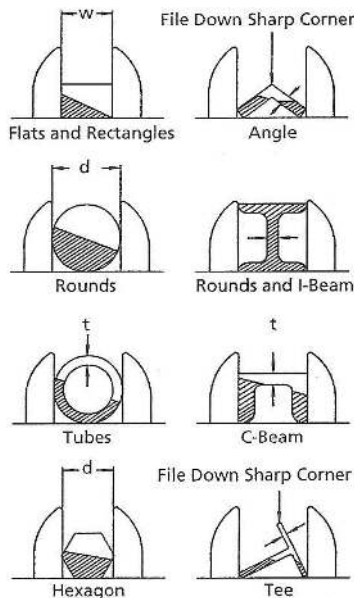

Figure 6 – Clamping Configurations and Thickness Average Calculation
2. Secure the work piece tightly in the vise according to Figure 6